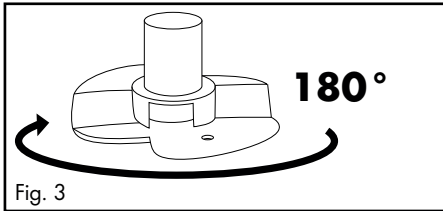
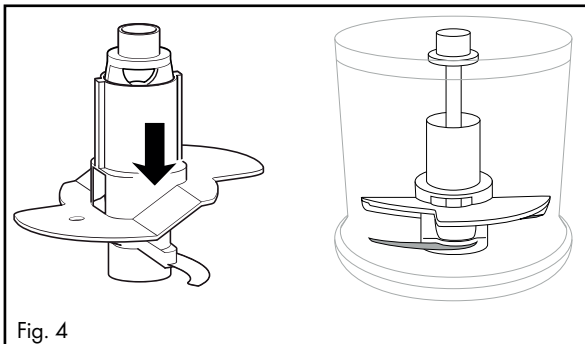

Fig. 3
Fig. 4
- To whip 200 ml of cream, turn the emulsifying disc **6** horizontally by 180° (fig. 3), so that it is in contact with only one blade **7** and clicks into place (fig. 4). The emulsifying disc **6** then churns higher through the cream.